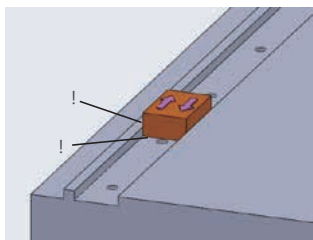

Fig 1. Checking the mounting surface.
(A) Prior to assembly, always remove all burrs, dents and dust that are likely to form on the mounting surface of the machine on which linear guide is to be installed. (Fig. 1)
Using a jig as shown in (Fig. 1) confirm parallelism between the master-rail-side reference surface and that of the subsidiary rail at each mounting hole, and fully tighten the mounting bolt there.